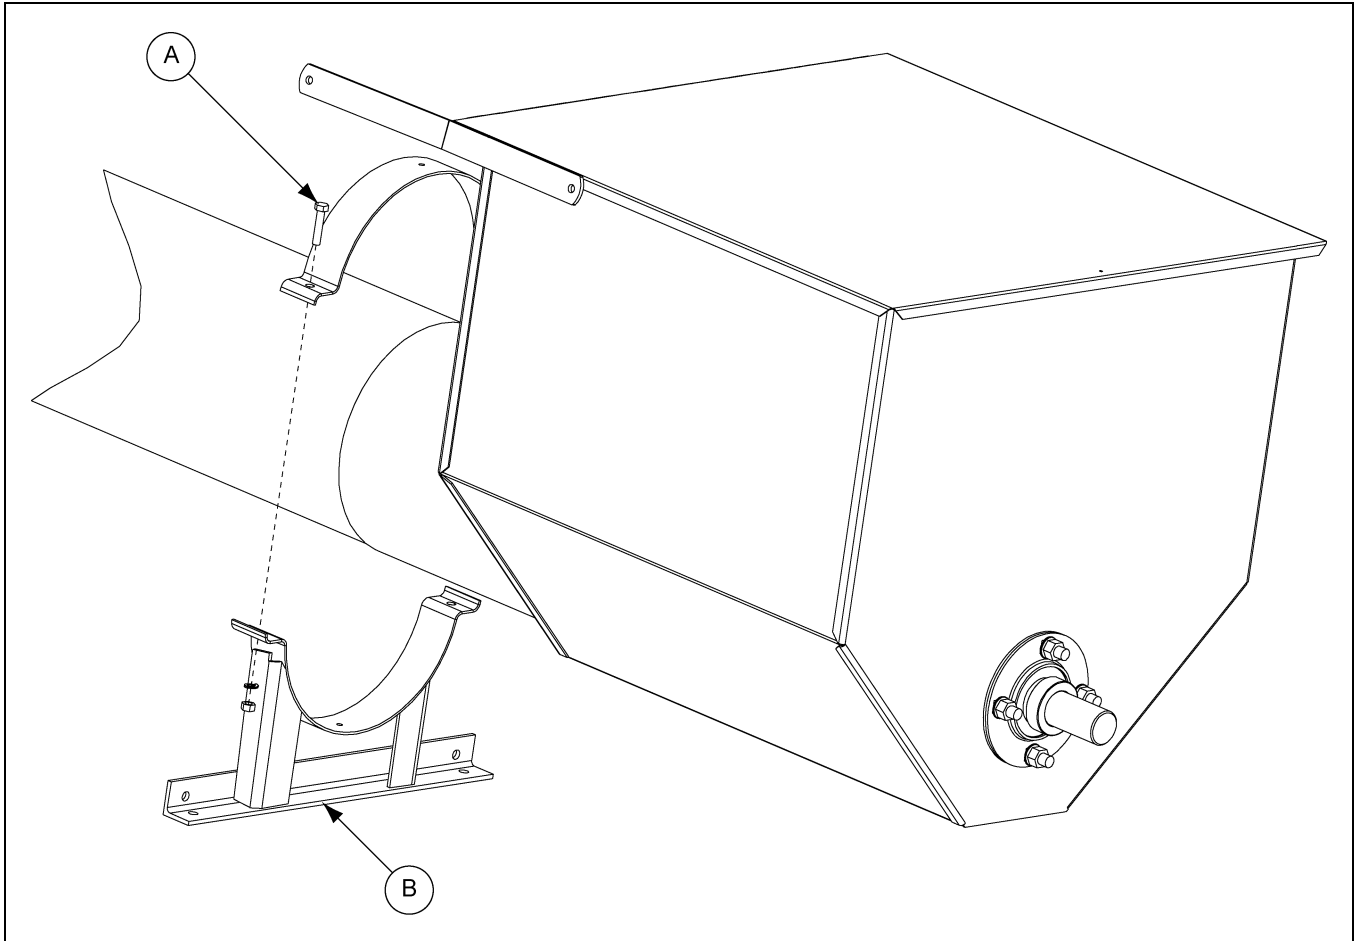

Figure 4AF
2. Install the shortest stand (B) as close to the intake hopper as possible. Positioning the stand as close as possible to the hopper will help to distribute the hoppers weight. (See Figure 4AF.)